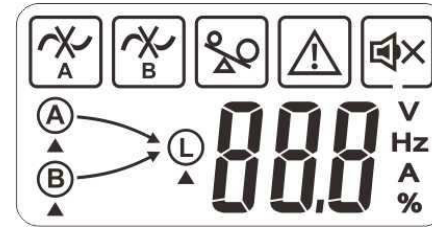
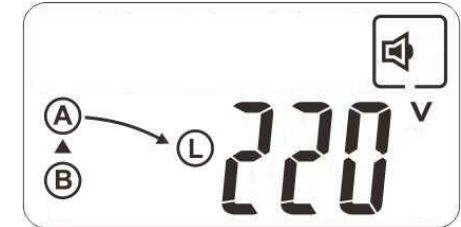

Figure 4
Figure 5
Once input power is connected, the ATS automatically boots up. The LCD display during boot is as shown in Figure 4 and all LEDs (A, B, L) are lit. LCD display is as shown in Figure 5 after boot up, only the LEDs for Power A (A) and Power B (B) are lit.